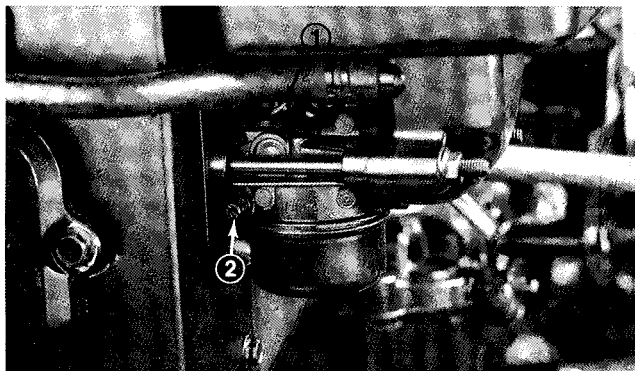

Figure 20
- Idle Fuel Screw (Fig. 20) — Close screw by gently rotating it clockwise.
- Rotate — open — the screw 1 turn counterclockwise (Fig. 20).
- Idle Speed Screw (Fig. 20) — Set the idle speed to $1200 \text{ rpm} \pm 75 \text{ RPM}$ by turning the idle speed screw in or out. Check speed with a tachometer.
- Idle Fuel Screw (Fig. 20) — With throttle in slow position, turn screw out (counterclockwise) until the engine speed decreases (rich). Note position of the screw.